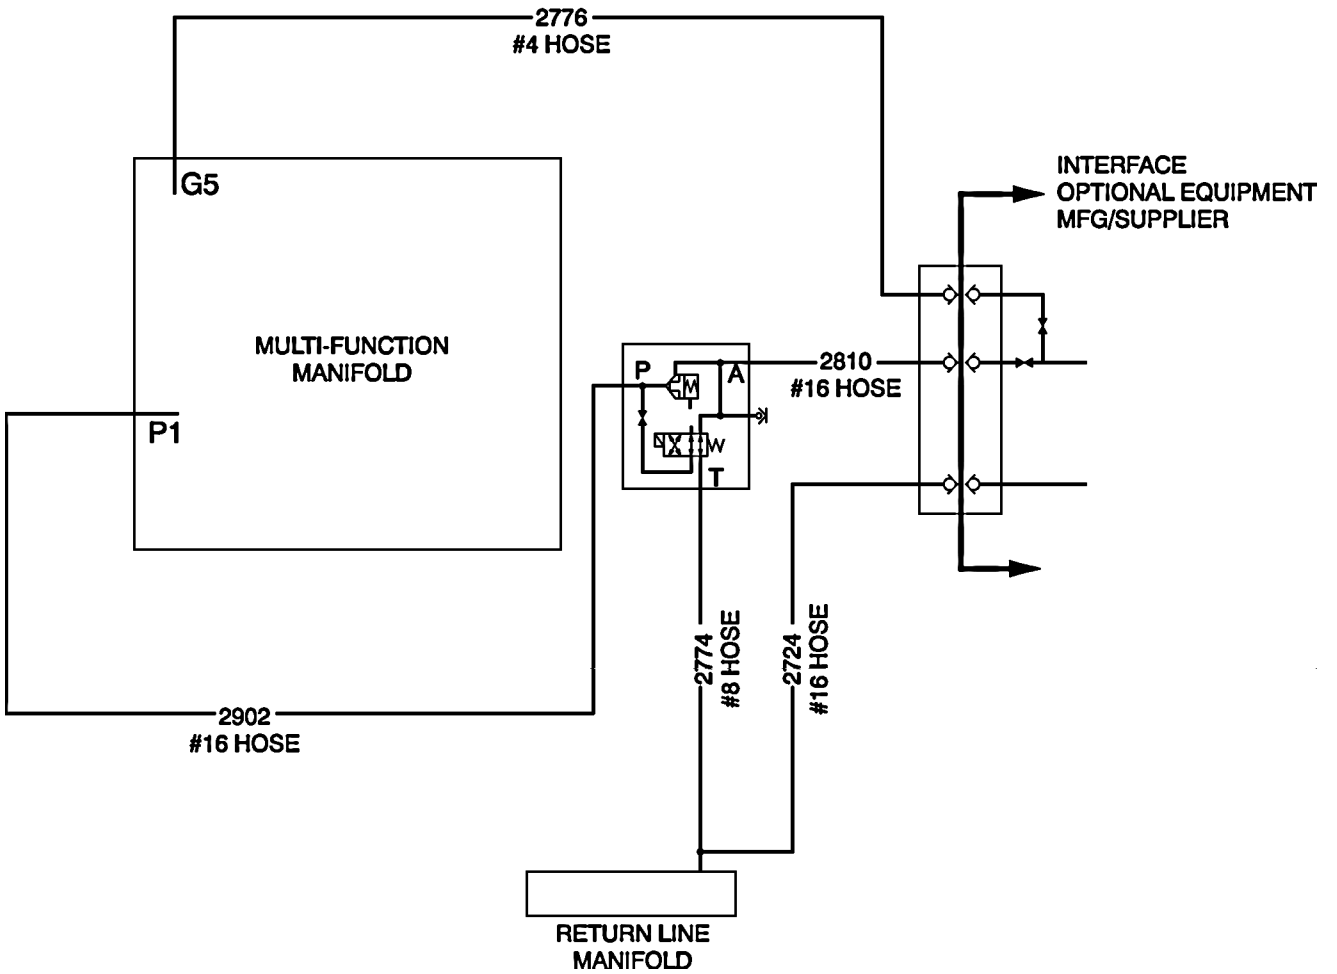

Figure 2-78. Interface Hydraulic Lines Diagram
- (1) Inspect interface hydraulic tubes 2724 and 2810 and hoses 2774, 2724, 2810, 2776 and 2902 for damage, crimps or leaks.
- (2) If hoses/tubes are damaged, crimped or leaking, tighten fittings or replace hoses/tubing (Para 20-3 and schematic Fig 2-78).